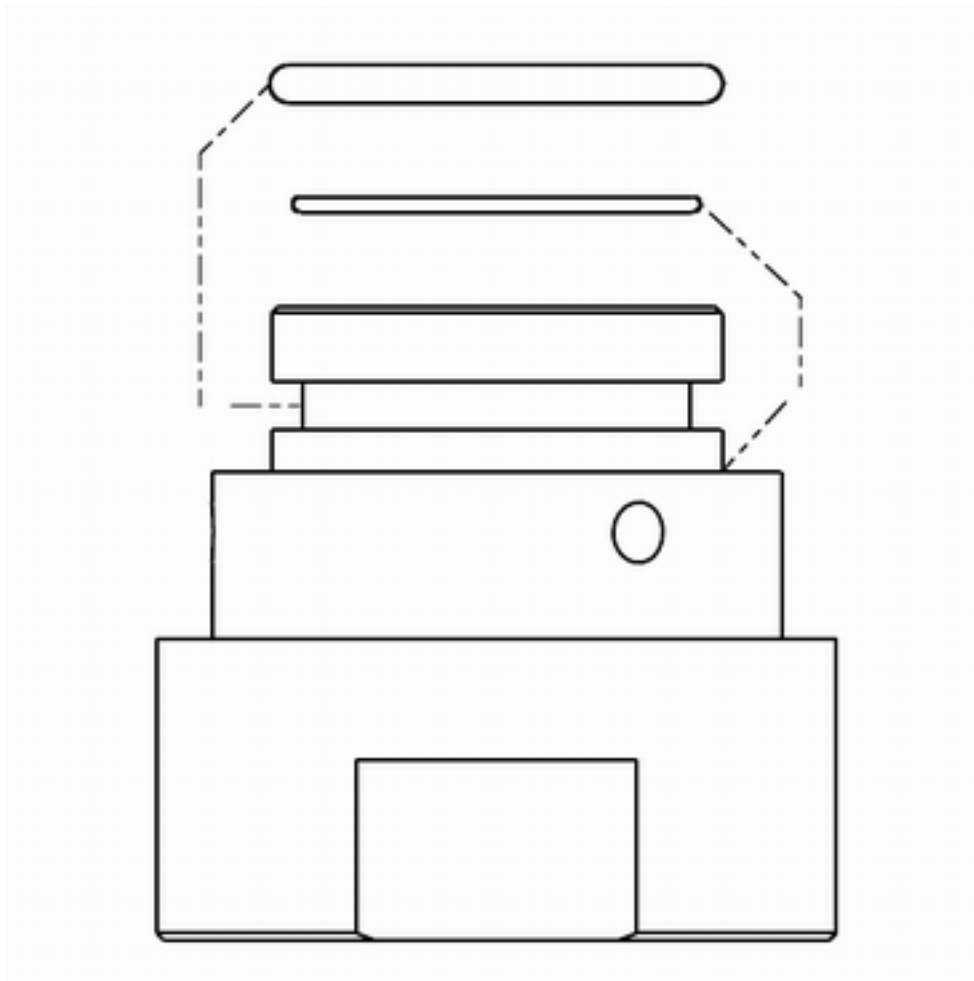

Fig. 42: Position of O-rings
- 1.** ➔ Carefully install the O-ring (seal) onto the process connection (*Fig. 40/01*), so that it rests in the upper O-ring groove of the process connection (*Fig. 42*). When doing so, be careful not to overstretch the O-ring.
2. Carefully install the O-ring (Glass buffer) onto the process connection (*Fig. 41/01*), so that it is properly seated on the lower portion of the process connection (*Fig. 42*). When doing so, be careful not to overstretch the O-ring.